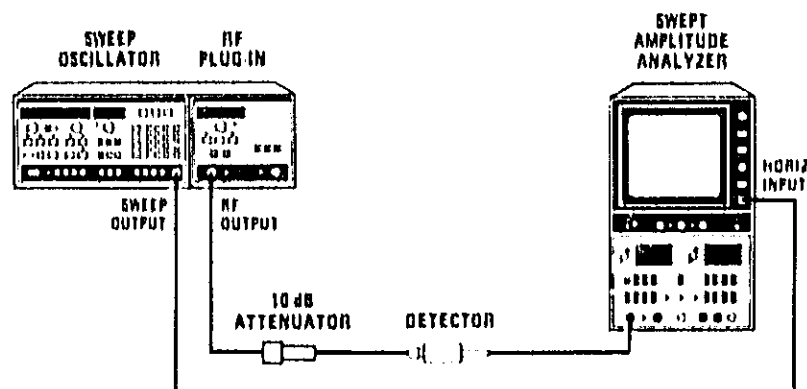

Figure 5-37. Power Sweep Test Setup
1. Connect equipment as shown in Figure 5-37. On the 8350A, press INSTR PRESET \square MOD . Allow the equipment to warm up for 1 hour.